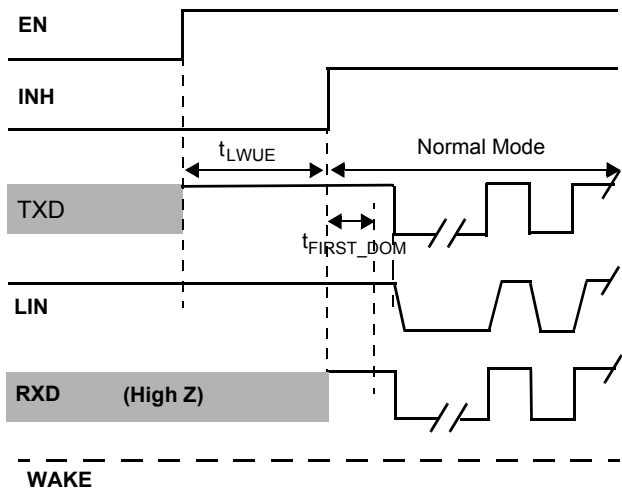

Figure 14. EN Pin Wake-up with TXD High
27. See Figure 14, 17, Figure 21, Figure 25 and Figure 26
30. See Figure 14, 17, 15, 18, 16, 19 and Figure 24